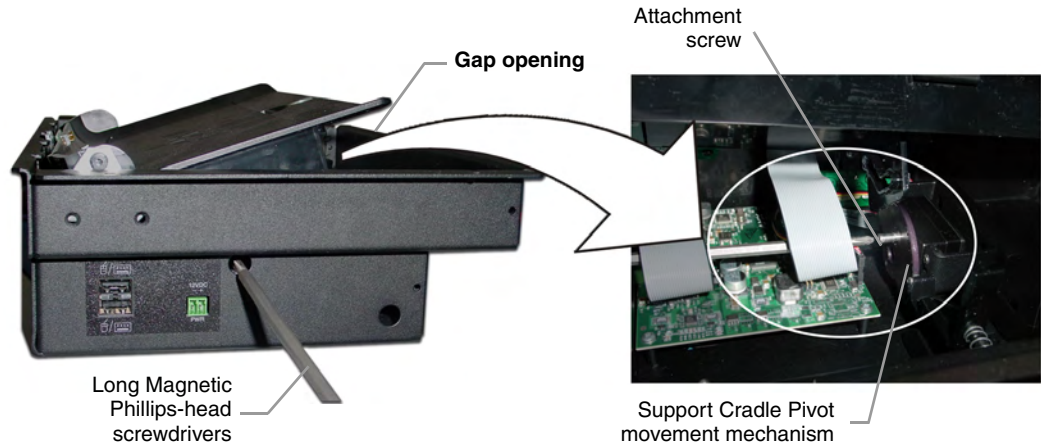

FIG. 22 Separating the support cradle from its movement mechanism
3. Position the unit to allow a clear view through the gap between the cradle and the rim of the metallic WDS housing (FIG. 22). This view allows you to orient the alignment between the tip of the screwdriver and the screw holding the support cradle to its associated movement mechanism.
7. Insert the screwdriver (with attached securing screw) into the large hole along the side of the WDS housing (shown in FIG. 22 on page 21).
8. Position the unit so you can get a better view and orient the position of this screw back into its location where it secures the support cradle to its associated movement mechanism (shown in FIG. 22 on page 21).